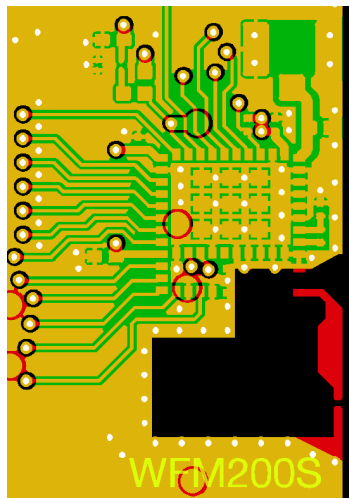

Figure 7.3. Grounding and Via Stitching of WFM200 Part
- Connect all ground pads directly to a solid ground plane and place the ground stitching vias close to the ground pads. The recommended GND via stitching placement for WFM200 is shown in Figure 7.3 Grounding and Via Stitching of WFM200 Part on page 17.